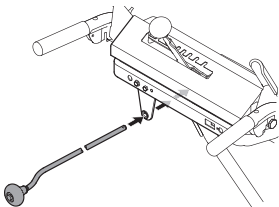

Figure 16
- Insert chute control rod into the support bracket on rear of the dash panel (Figure 16).